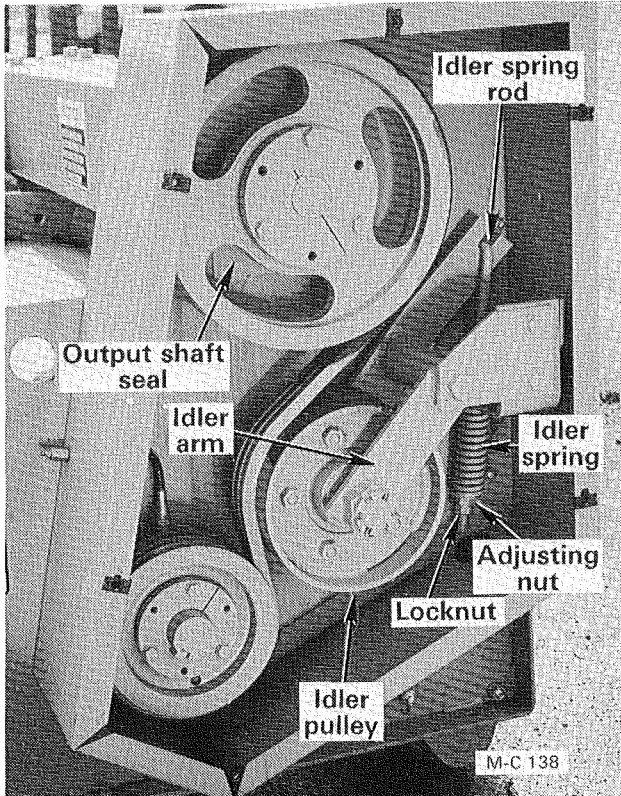

Figure 28
3. If not, loosen the locknut and tighten the idler spring adjusting nut, see Figure 28, until the compressed spring length is 5 to 5½ inches long.